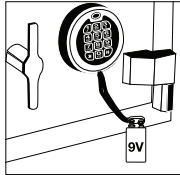

Figure 2
2. Pull out 9 volt battery connecting wire and attach the supplied 9 volt battery (Figure 2).